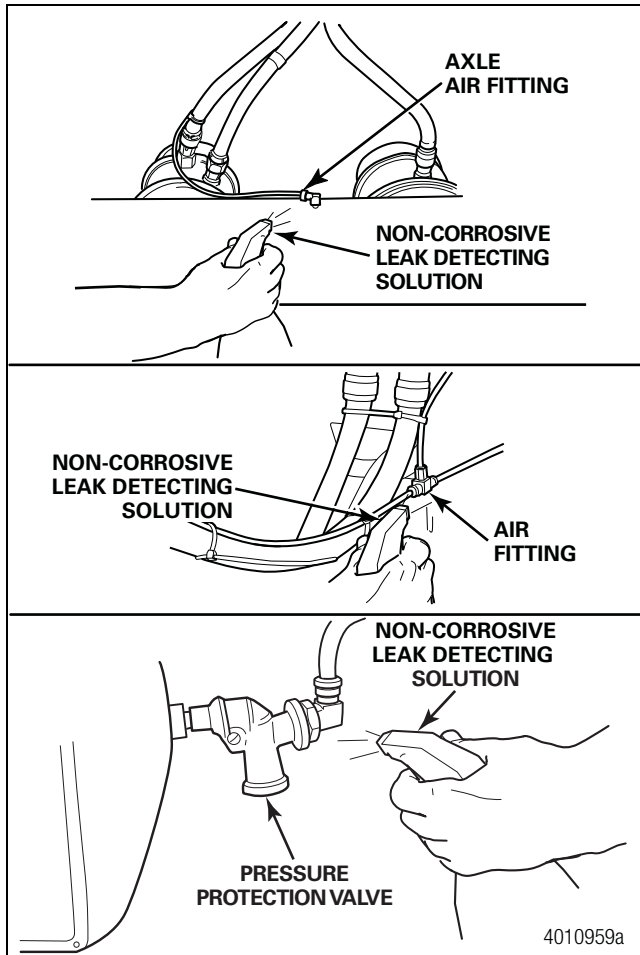
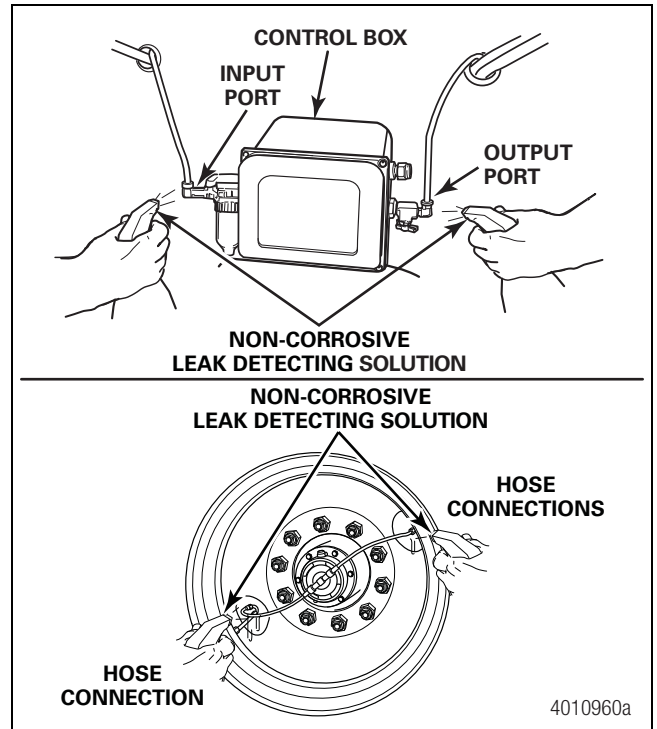

Figure 3.22
Figure 3.23
1. Test the tire inflation system for air leaks. Spray a non-corrosive leak detection solution on all fittings and hose connections to check for leaks. Figure 3.22 and Figure 3.23.